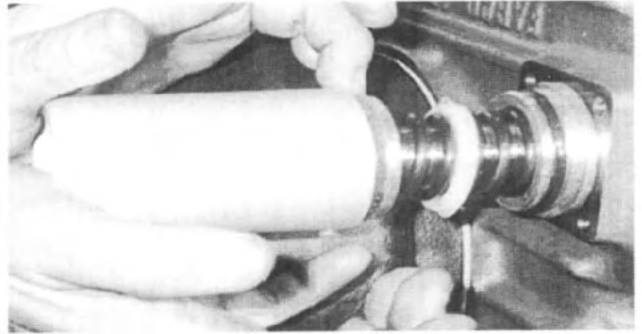

Fig. 98
36. Install a new oil-soaked felt wiper onto the piston assembly. Install the cylinder housing over the piston assembly. See Fig. 98.